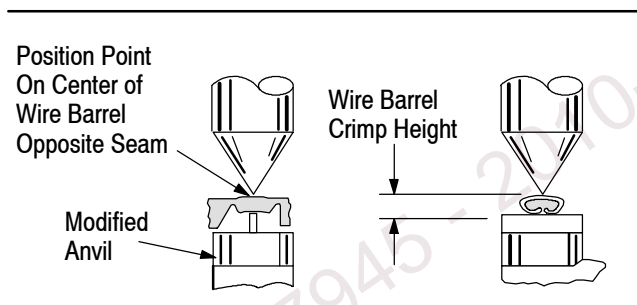

Figure 4
This inspection requires the use of micrometer with a modified anvil as shown in Figure 4.
3. Using a crimp height comparator, measure wire barrel crimp height as shown in Figure 4. If the crimp height conforms to that marked on the tool, the tool is considered dimensionally correct.